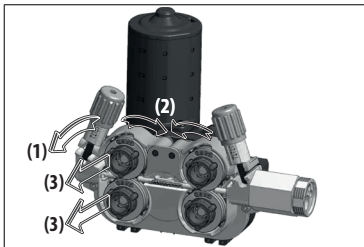

Figure 9: Wire Feed Roller Removal
- If you need to replace the wire feed rollers, pull the pressure adjustment screw toward your side (1) and after lifting the roller covers (2), remove the existing rollers (3). (Figure 9)